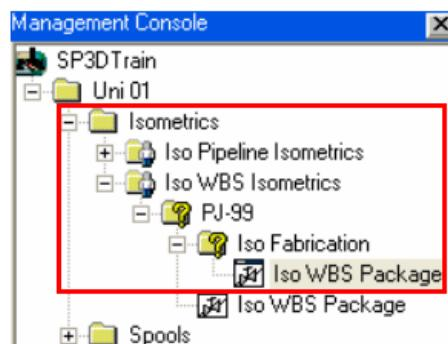

Figure 15. 64: Iso WBS Package in Management Console
12. Right-click the **Iso WBS Package** isometric drawing type and click the **Update Now** option, as shown in Figure 15. 65, to update the isometric drawings.